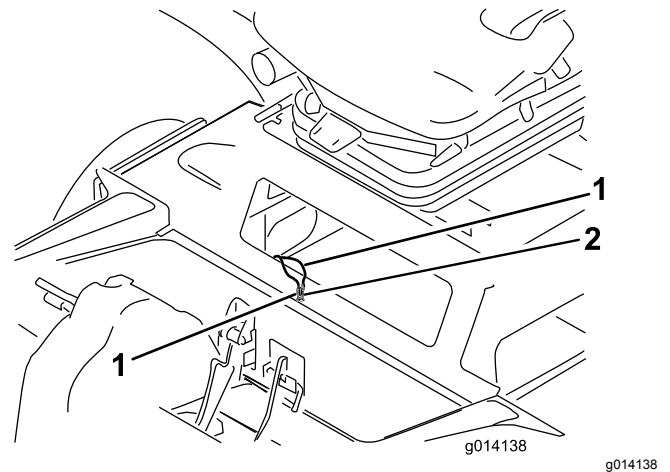

Figure 62
3. Locate the 2 capped counterbalance jumper wires inside the compartment (Figure 62)